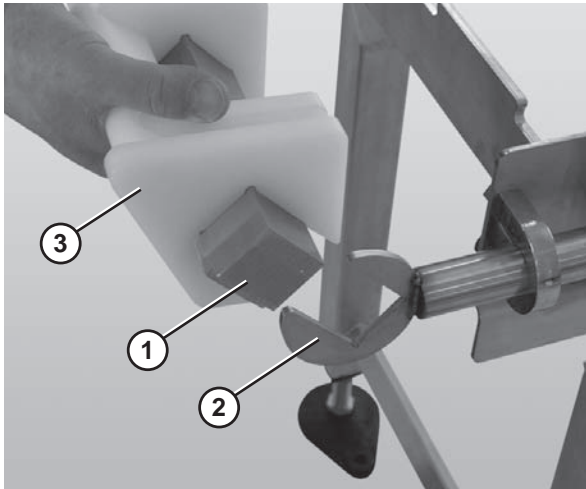

Figure 75
4. After all tracking pucks (**Figure 75, item 3**) are installed, slide the nose bar drive or transfer post (**Figure 75, item 1**) into the nose bar drive weldment or idler hands (**Figure 75, item 2**).